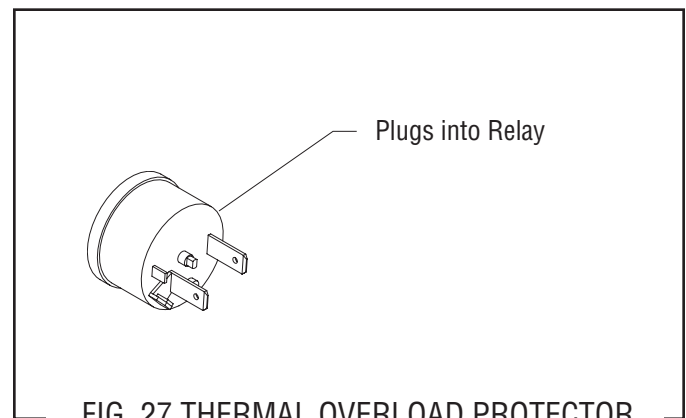

FIG. 27 THERMAL OVERLOAD PROTECTOR TERMINALS
1. Remove terminal cover (4).
4. Remove overload protector (3) and start relay as an assembly.
5. Remove overload protector (3) and discard overload protector.
6. Install new overload protector (3) on to the relay (1).
7. Install relay (1) and overload protector (2) on the compressor terminal bracket.
8. Refer to Fig. 27 and reconnect the thermal overload protector wires.
9. Reinstall terminal cover (4).